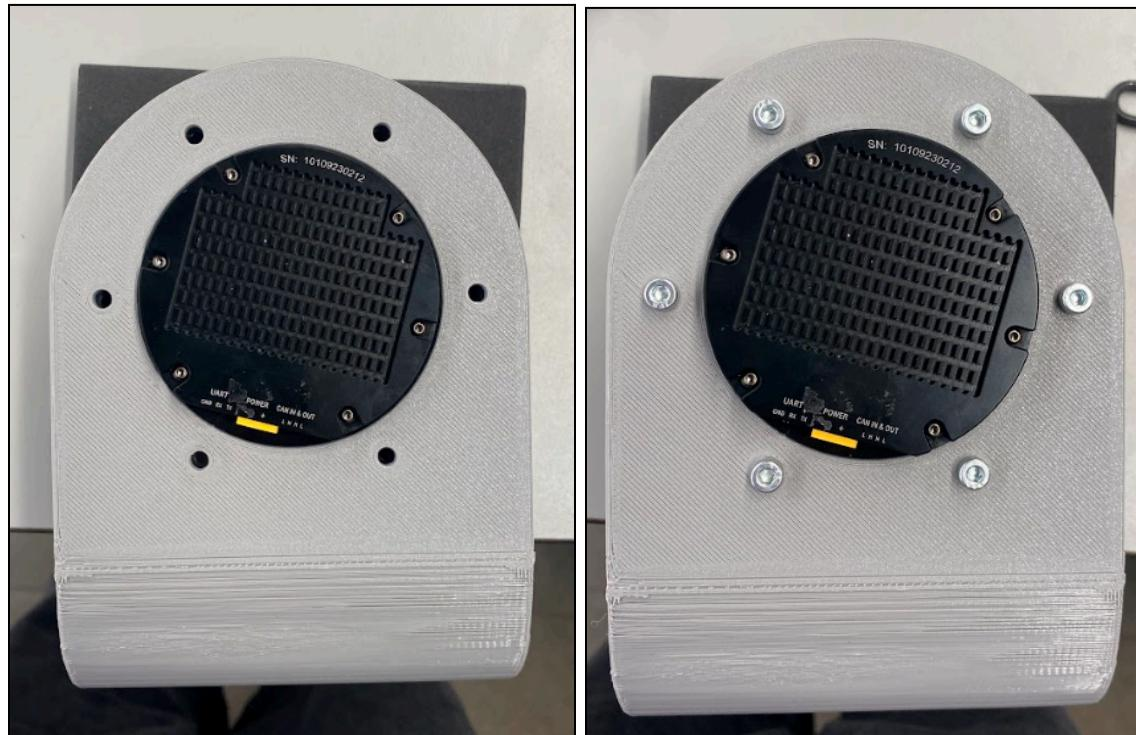

Figure 12: J2 Motor to J2 Motor Holder assembly
- Using six M4 x 6mm screws, fasten the J2 motor holder to the J2 Motor. See Figure 12 below.